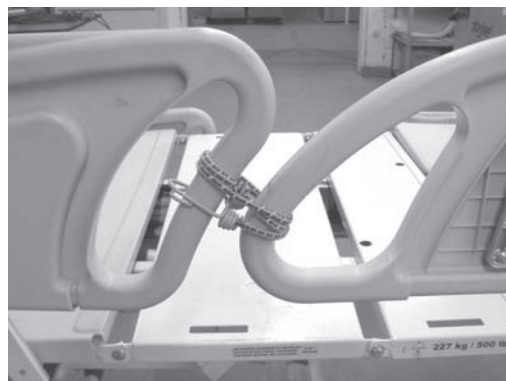

Figure 4
3. Using a small regular screwdriver, lift and remove the outer membrane (A), two screw covers (C) and the label (B). Use caution when inserting the screwdriver under the labels to avoid damaging the cover.
5. Using a #2 Phillips screwdriver, remove the eight screws (D) holding the outer cover to the siderail.
6. Disconnect the control board cable (M) and remove the outer cover.
7. Secure the siderail to be repair to the adjacent siderail using a bungee cord (see Figure 4).
8. Using cutting pliers, cut the lower cable tie (E) holding the bottom part of the grey cable (there may be two cables) to the aluminum structure. The slack in the cable will be necessary for the following steps.